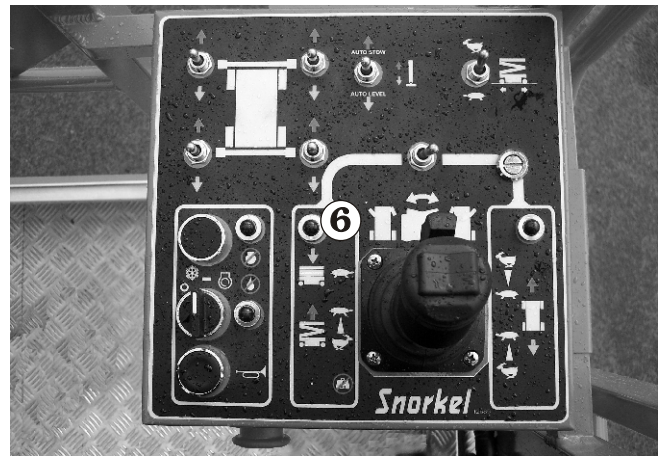

Figure 8.23
4. Lower the appropriate stabilisers just enough to center the bubble **4** (see Figure 8.22). When the **Lift Indicator Light 6** (see Figure 8.23) comes on, the platform can be safely raised.